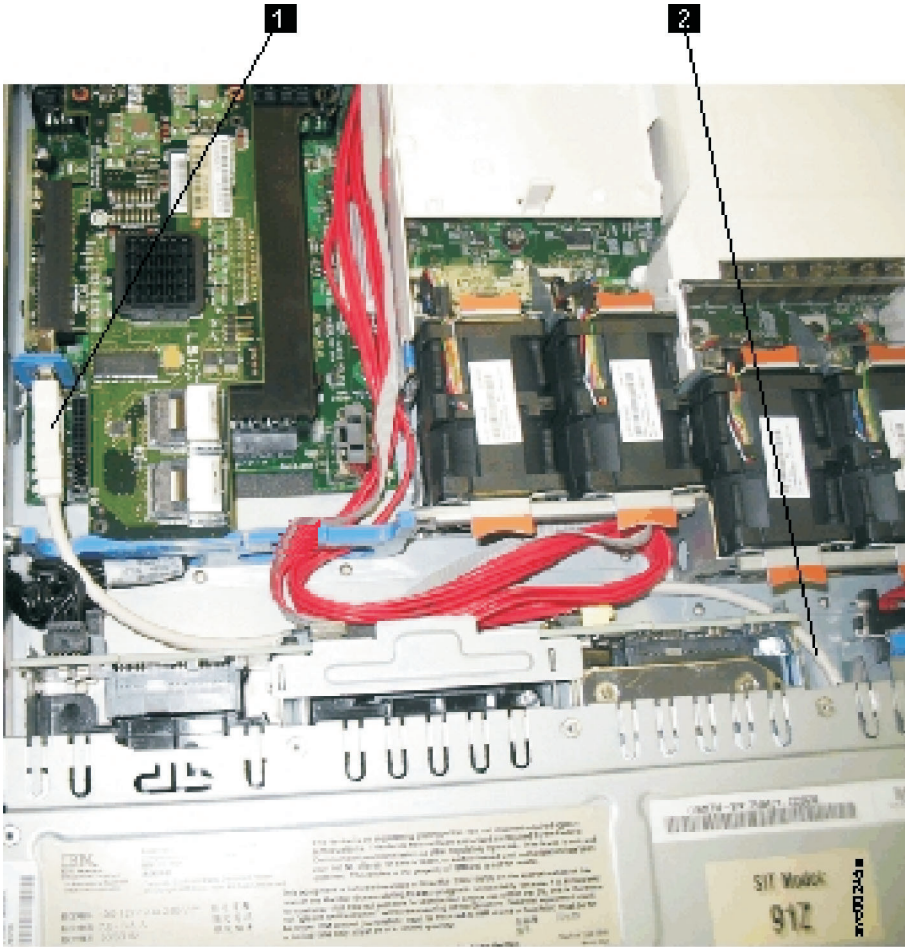

Figure 77. USB service-controller cable connected to the disk controller and USB riser card (SAN Volume Controller 2145-CF8 shown)
- b. Locate the USB connector ( **1** in Figure 77 on page 90) on the left side of the SAN Volume Controller 2145-CG8 or 2145-CF8.
- a. To reinstall the cable, *carefully* thread the USB cable through disk-drive bay 5, routing the larger connector of the cable to the USB connector ( **1** in Figure 77 on page 90) on the USB riser card. Route the cable beneath any red SAS cables that are attached to the disk backplane.